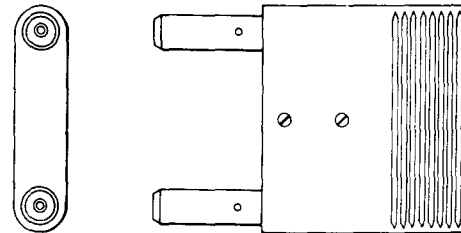

Fig. 13—513A Plug
2.12 513A: The 513A (Fig. 13) is a twin-patching type plug that consists of a pair of coaxial plug fingers mounted in a metal shell. The two plug fingers are connected together internally by means of flexible coaxial wire. The 513A plug is not arranged for cord terminations, and mates with the 560A, 568A, and 621A jacks. This plug is used on the J68922DA Line Access Switching Panel.